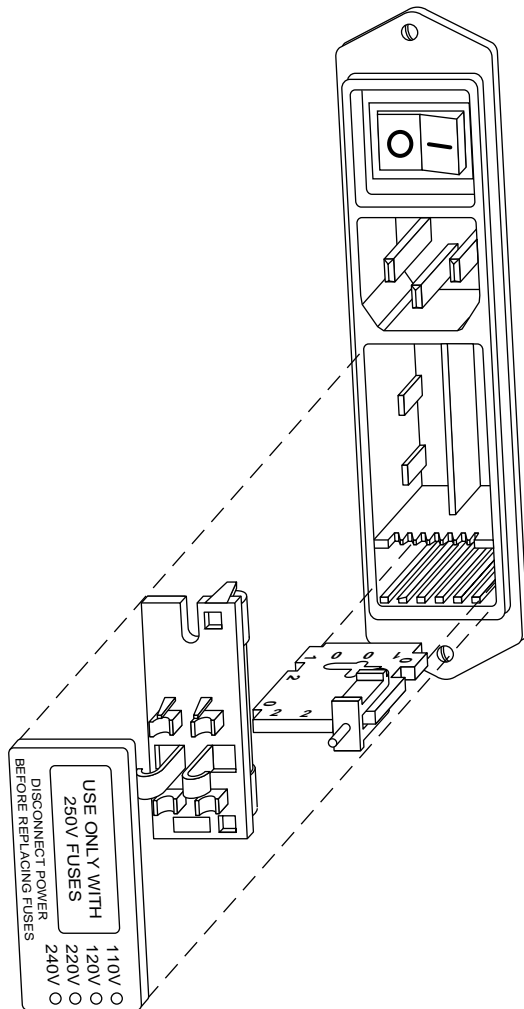

Figure 6.1
3. Pull the fuse block straight out. See Figure 6.1.
2. Slide the fuse drawer out. See Figure 6.1.